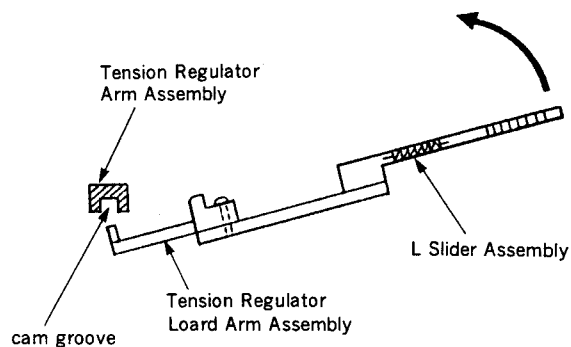

Fig. 2
- (1) Remove the Cassette-up Compartment Assembly referring to Section 2-3.
- (2) Remove the Fly Wheel referring to Section 4-1.
- (3) Remove the Threading Ring Assembly referring to Section 4-4.
- (4) Remove the Entrance Guide (P) Assembly referring to 4-10.
- (5) Remove the Slant Guide Block Assembly referring to Section 4-11.
- (6) Press the L-mode select button of the Mode Selector and set to the **DRUM START** mode.
- (7) Remove the Slant Guide Drive Gear.
- (8) Remove the two stopper washers from the L Slider Assembly.
- (9) While pushing the projection of the RL Arm Assembly in the direction of the arrow, lift the right side of the L Slider Assembly and remove it from the shaft.
- (10) Lift the right side of the L Slider Assembly as shown in figure 2 and remove the pin of the Tension Regulator Load Arm Assembly from the cam groove of the Tension Regulator Arm Assembly, and then remove the L Slider Assembly.
- (11) Remove the stopper washer and remove the Tension Regulator Load Arm Assembly.